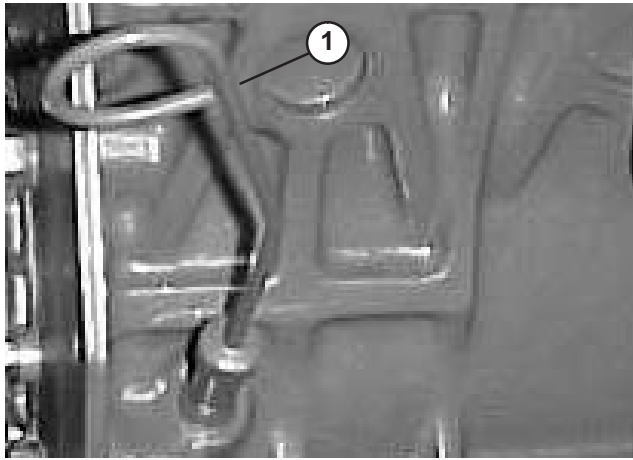

Figure 16
2. Remove dipstick (Fig. 16), wipe clean and reinstall dipstick. Remove dipstick and check oil level. Oil level should be up to FULL mark on dipstick